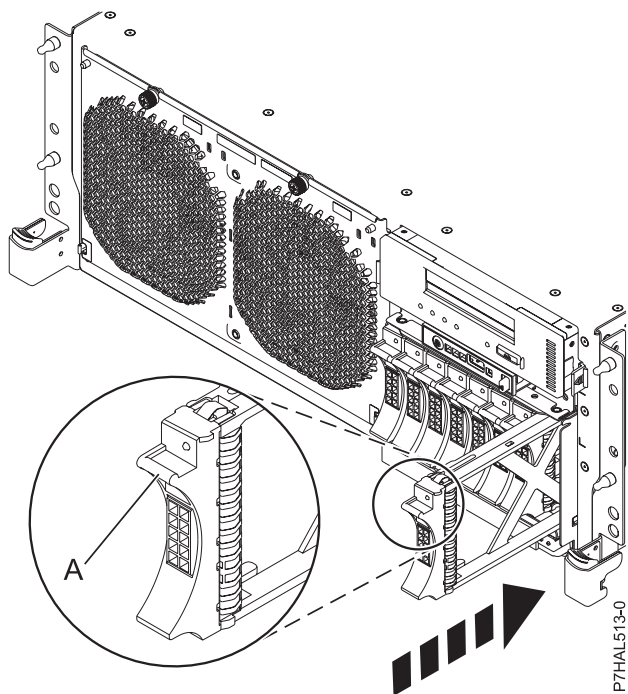

Figure 60. Installing a disk drive filler in the system
2. Slide the disk drive filler all the way into the system or expansion unit, and push the disk drive filler handle (A) until it locks, as shown in Figure 60.